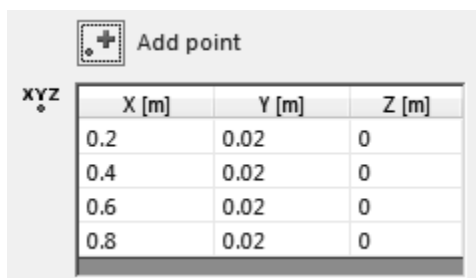
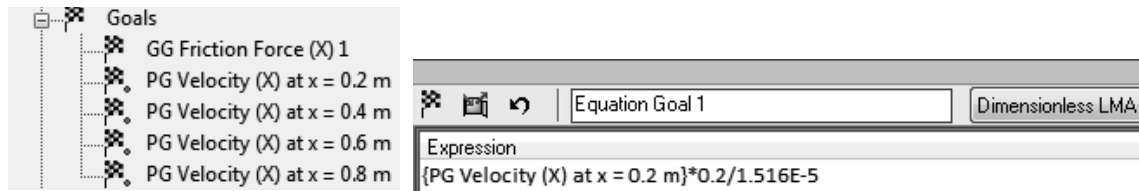

Figure 2.21e) Coordinates for point goals
Figure 2.21f) Renaming the point goals      Figure 2.21g) Entering an equation goal
21. Right click on **Goals** in the **Flow Simulation analysis tree** and select **Insert Global Goals...**. Select **Friction Force (X)** as a global goal. Exit the **Global Goals** window. Right click on **Goals** in the **Flow Simulation analysis tree** and select **Insert Point Goals...**. Click on the **Point Coordinates** button. Enter **0.2 m** for X coordinate and **0.02 m** for Y coordinate and click on the **Add Point** button. Add three more points with the coordinates shown in figure 2.21e). Check the **Value** box for **Velocity (X)**. Exit the **Point Goals** window. Rename the goals as shown in figure 2.21f). Right click on **Goals** in the **Flow Simulation analysis tree** and select **Insert Equation Goal...**. Click on the **Velocity (X) at x = 0.2 m** goal in the **Flow Simulation analysis tree**, multiply by  $x = 0.2 \text{ m}$  and divide by the kinematic viscosity of air at room temperature ( $\nu = 1.516\text{E-}5 \text{ m}^2/\text{s}$ ) to get an expression for the Reynolds number in the **Equation Goal** window, see figure 2.21g). Select **Dimensionless LMA** from the dimensionality drop down menu. Exit the **Equation Goal** window. Rename the equation goal to **Reynolds number at x = 0.2 m**. Insert three more equation goals corresponding to the Reynolds numbers at the three other  $x$  locations. For a definition of the Reynolds number, see page 2-21.